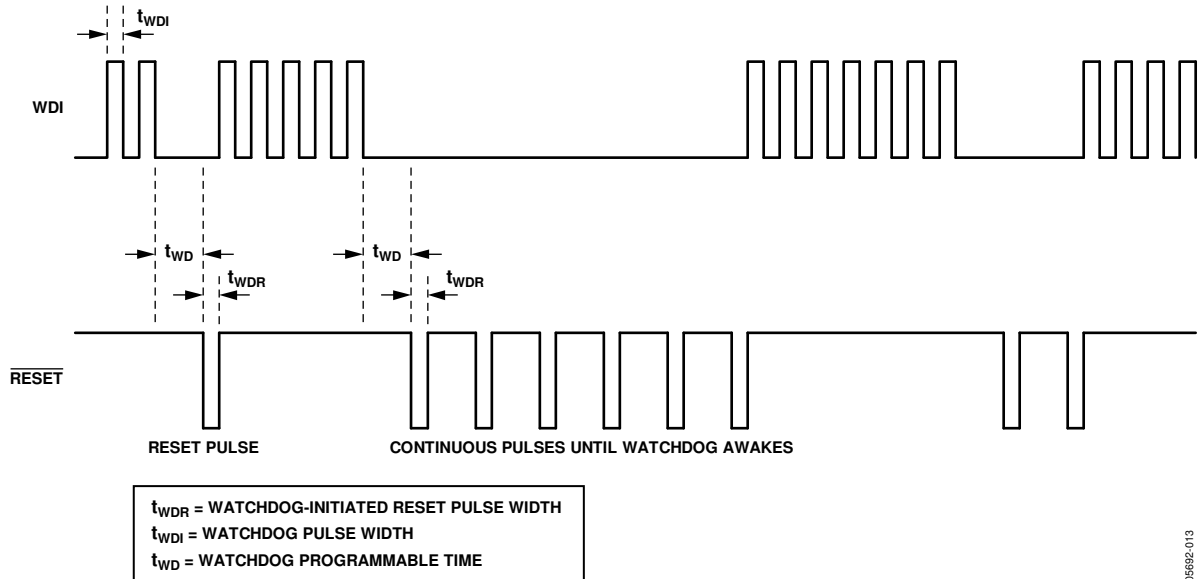

Figure 13. Standard Watchdog—Pulsing Reset Until Watchdog Awakes
In the default standard watchdog mode, if WDI remains either high or low for longer than the timeout period, t_{WD} , a $\overline{\text{RESET}}$ pulse is generated in an attempt to allow the system processor to reestablish the WDI signal. The $\overline{\text{RESET}}$ pulses continue indefinitely until a valid watchdog signal, a rising or falling edge signal at the WDI, is received. The internal watchdog timer clears whenever a reset is asserted. The standard WDI and $\overline{\text{RESET}}$ timing diagrams are shown in Figure 13.
- When the external monitoring processor cannot issue the necessary WDI signal (see Figure 13 and Figure 14)